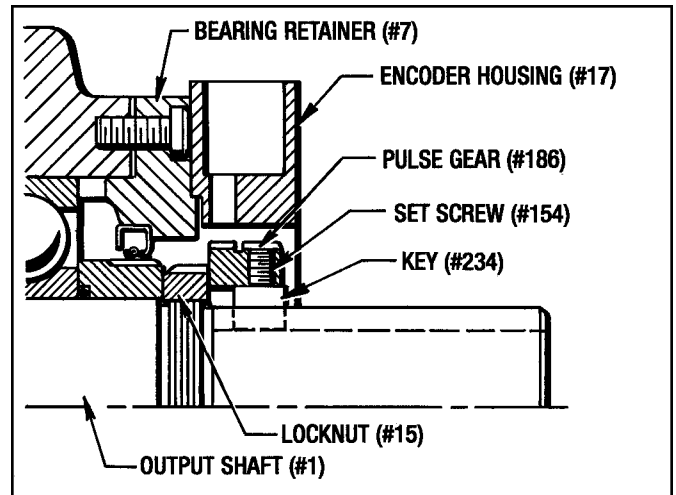

Figure 9.20 - Pulse Gear Alignment (#20 *Posidyne*)
- Slide the Pulse Gear (#186) onto the output shaft. Butt it up against the Locknut (#15) and align the Set Screw (#154) with the Key (#234) and tighten. (See *Figure 9.20*)
- Attach the Encoder Housing (#17) to the Bearing Retainer (#7) on the output end of the *Posidyne* with (2) Screws (#76) and (2) Lockwashers (#257).